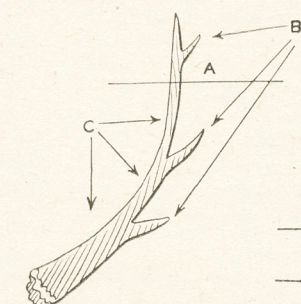

Fig. 1—The antler complete
The antlers may be divided into three sections as shown in Fig. 1. Part (A) is the tip, and this can be utilized for walking stick or riding crop handles. Parts (B), known as the 'points', may be used for making paper knives, book-marks, etc. The main trunk of the antlers, part (C), for making toggles, match or spill holders.